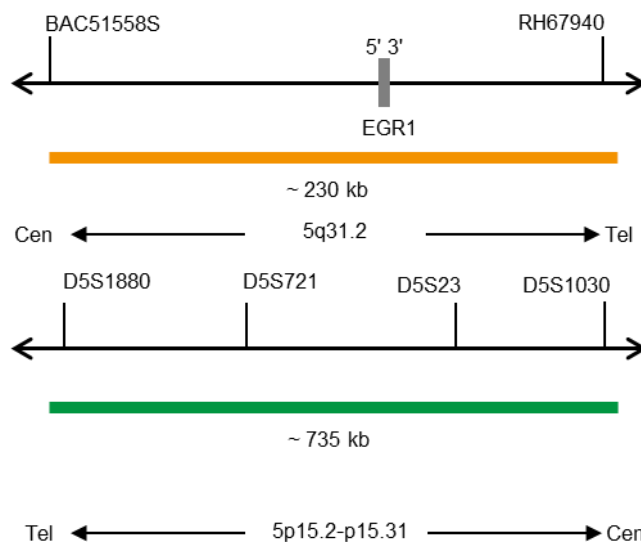

Fig. 1: Top: SPEC EGR1 Probe Map (not to scale); Bottom: SPEC D5S23,D5S721 Probe map (not to scale)
- ZyOrange (excitation 547 nm/emission 572 nm) labeled polynucleotides (~4.5 ng/μl), which target sequences mapping in 5q31.2\* (chr5:137,667,079-137,897,109) harboring the EGR1 gene region (see Fig. 1).
- ZyGreen (excitation 503 nm/emission 528 nm) labeled polynucleotides (~10 ng/μl), which target sequences mapping in 5p15.2-p15.31\* (chr5:9,233,775-9,967,465) harboring the D5S23,D5S721 locus (see Fig. 1).